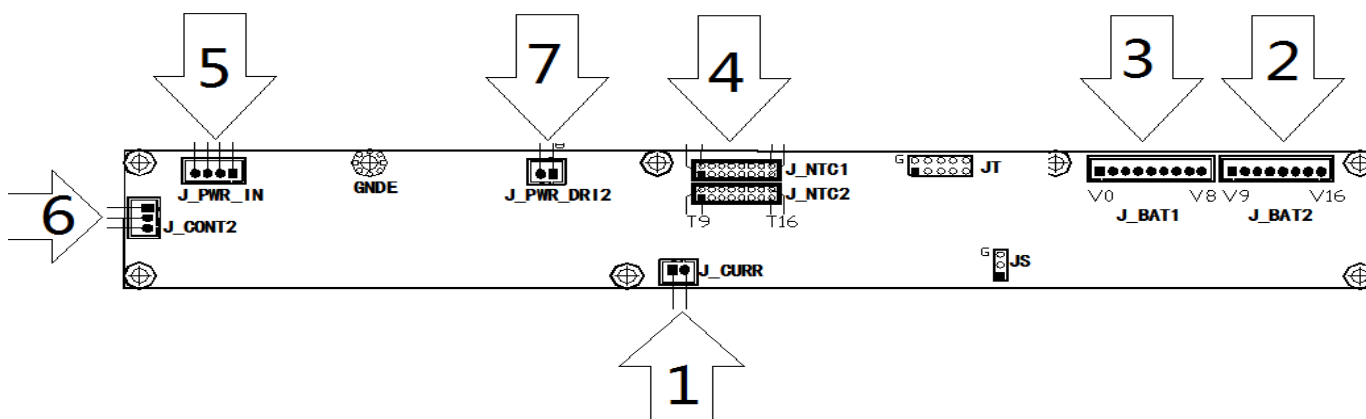

Figure 2 BMS board connection sequence diagram
3.3.2 will figure 2, the J\_PWR\_IN J\_PWR\_DR12, J\_CONT2, J\_CURR plug according to graphic connection, when confirmed to the next step.
4.1 test connection in figure 2 shows connection mode, check the terminal on the signal wire connection is correct, special inspection cell monomer voltage acquisition line and shunt connecting line is correct, correct, according to the following sequence connection: insert J\_CURR shunt acquisition line plug 1 → insert 8 pin of the J\_BAT2 monomer voltage acquisition line plug 2 → insert 9 pin of the J\_BAT1 monomer voltage acquisition line plug → into other connecting wire, as below: